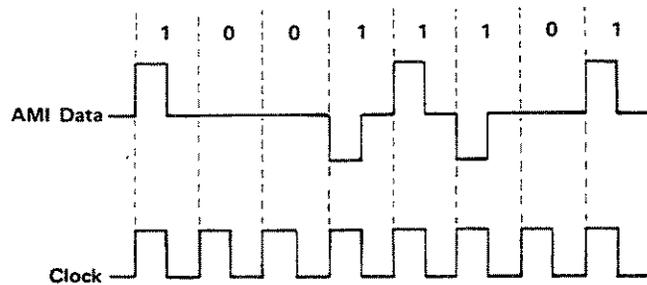

Figure B-1 AMI Data/Clock
- AMI : Alternate Mark Inversion (often called "bi-polar" coding) is a form of ternary data in which data "marks" (normally representing "1"s) are alternately positive and negative. The main advantages of this basic code are that the average dc potential on the line is zero and, that this code can be used to detect if one data bit has been changed during transmission (as two consecutive bits would then have the same polarity). (See Figure B-1).